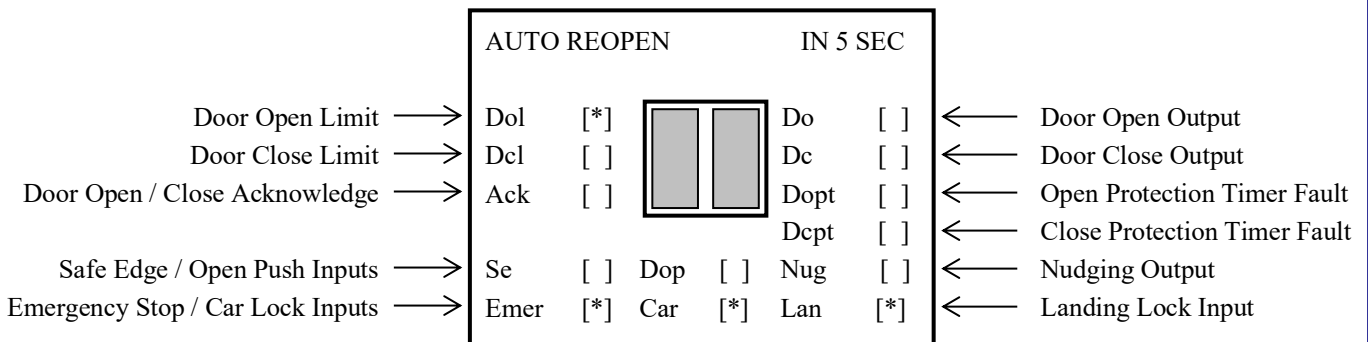

Fig 1
- c. The doors will cycle indefinitely until the test is stopped, or a fault occurs. The Door Gear Viewer Screen is displayed (as Fig 1 below.) Pressing F1 at anytime will also display the screen (as Fig 1).